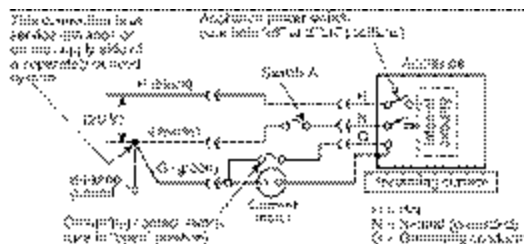
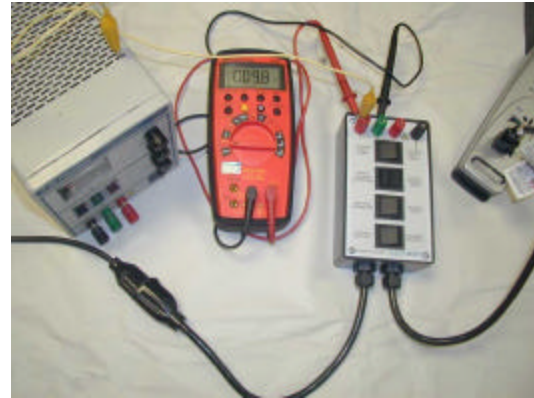

FIGURE 8.4.1.3.5.5 Test Circuit for Measuring Chassis Leakage Current.
Figure 9 Chassis Leakage Current - Fixed Equipment
11. See Figure 9 and Table 9 for a Test Setup synopsis. This section is based on NFPA 99 Fig. 8.4.1.3.5.5, see below.